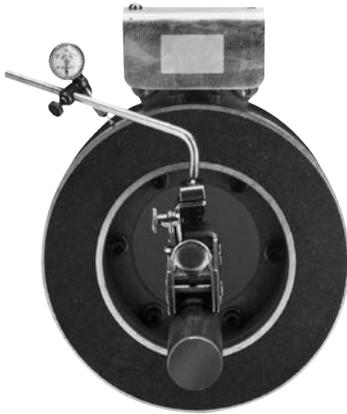

Figure 3
- Use a dial indicator to check the unit for concentricity and squareness to the shaft. The unit should be concentric within .010 T.I.R. and square within .006 T.I.R. (Figure 3)